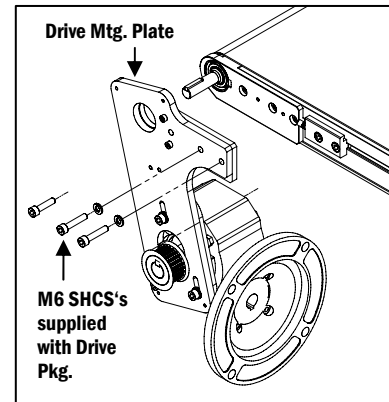

Figure 3
- b. Install and tighten the three M6 Socket Head Screws included with the drive mounting package into the holes of the Drive Mounting Plate (**Figure 3**).